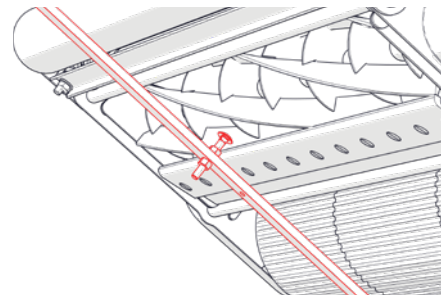

Fig.8G - Repeat process on the other side
8. Repeat step 7 for the second position on the other side of the cassette (Fig.8G).